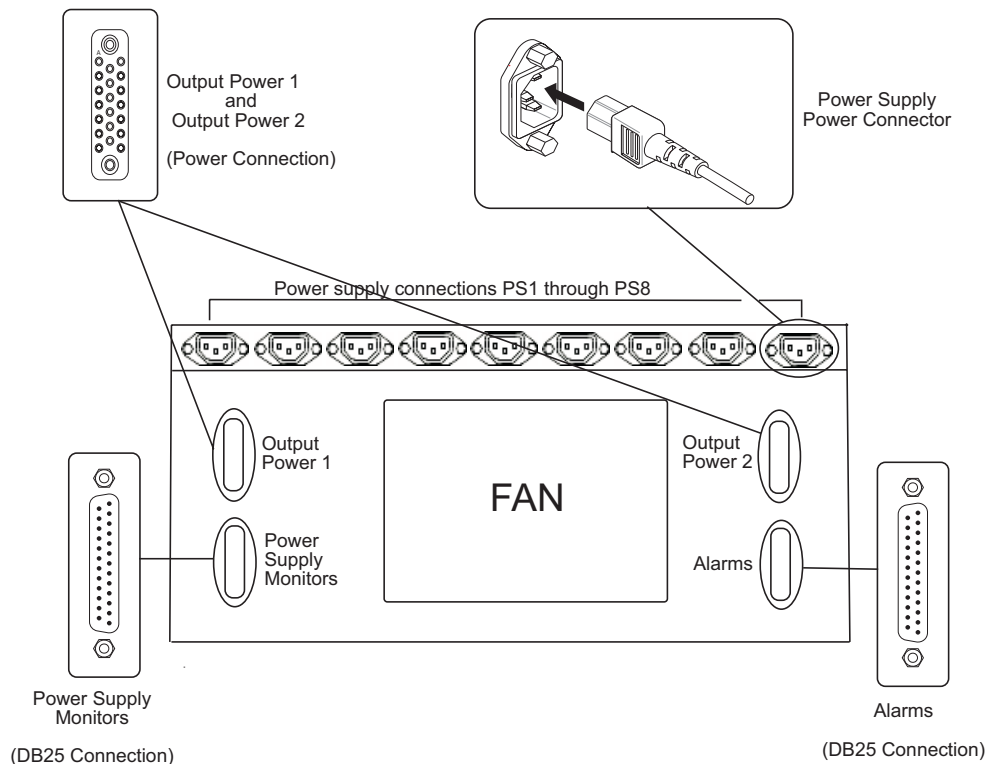

Figure 3-1. NV6257 Power Supply (Rear View)
- 4 Facing the rear of the **NV6257**, connect one end of the monitor cable (WC0046) to the ‘Power Supply Monitors’ DB25 connection, as shown in Figure 3-1.
- 6 Facing the rear of the **NV6257**, connect power cords from an AC power source (90–230 VAC, 50–60 Hz) into power supply connections *PS 1* through *PS 8*, as shown in Figure 3-1. Connect one power cord for each PS6000 power supply module installed. (See step 7.)
- 2 Facing the rear of the **NV6257**, connect one end of the power supply cable (WC0085) to ‘Output Power 2’, as shown in Figure 3-1 on page 27.
- 4 Facing the rear of the **NV6257**, connect one end of the monitor cable (WC0046) to the ‘Power Supply Monitors’ DB25 connection, as shown in Figure 3-1 on page 27.
- 6 Facing the rear of the **NV6257**, connect power cords from an AC power source (90–230 VAC, 50–60 Hz) into power supply connections *PS 1* through *PS 4*, as shown in Figure 3-1 on page 27. Connect one power cord for each PS6000 power supply module installed. (See step 7.)
- 3 Facing the rear of the **NV6257**, connect one end of the power supply cable (WC0085) to ‘Output Power 2’, as shown in Figure 3-1 on page 27.
- 5 Facing the rear of the **NV6257**, connect one end of a second power supply cable (WC0085) to ‘Output Power 1’, as shown in Figure 3-1 on page 27.
- 10 Facing the rear of the **NV6257**, connect a power cord from an AC power source (90–230 VAC, 50–60 Hz) into power supply connections *PS 1* through *PS 8*, as shown in Figure 3-1 on page 27. Connect one power cord for each PS6000 power supply module installed. (See step 11.)